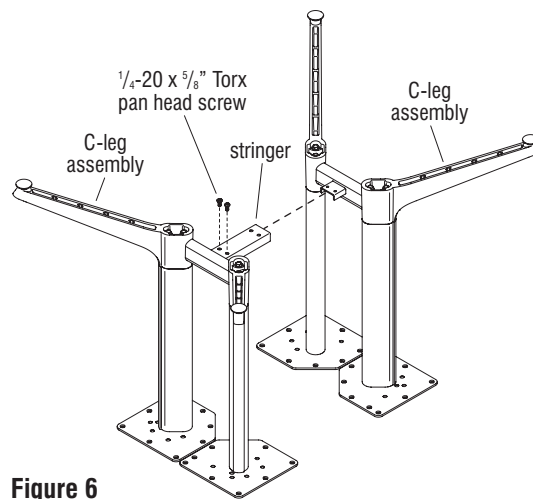

Figure 6
15. Align the stringer mounting holes with the stringer attachment bracket mounting holes, and secure together using two 1/4"-20 x 5/8" Torx pan head screws (Figure 6 & Detail F).
16. On the opposite end of the stringer, determine the next conference leg assembly to be added to the conference table base assembly based on your configuration by referencing the illustrations on the previous page (Figure 6).
17. Insert the stringer attachment bracket from the next conference leg assembly into the open end of the previously installed stringer (Figure 6 Details E & G).
18. Align the stringer mounting holes with the stringer attachment bracket mounting holes, and secure together using two 1/4"-20 x 5/8" Torx pan head screws (Figure 6 & Details F & H).
3. Align the stringer mounting holes with the stringer attachment bracket mounting holes, and secure together using two $\frac{1}{4}$ -20 x $\frac{5}{8}$ " Torx pan head screws (Figure 6 & Detail D).
4. On the opposite end of the stringer, insert the stringer attachment bracket from the next C-leg assembly into the open end of the previously installed stringer (Figure 6 & Detail C).